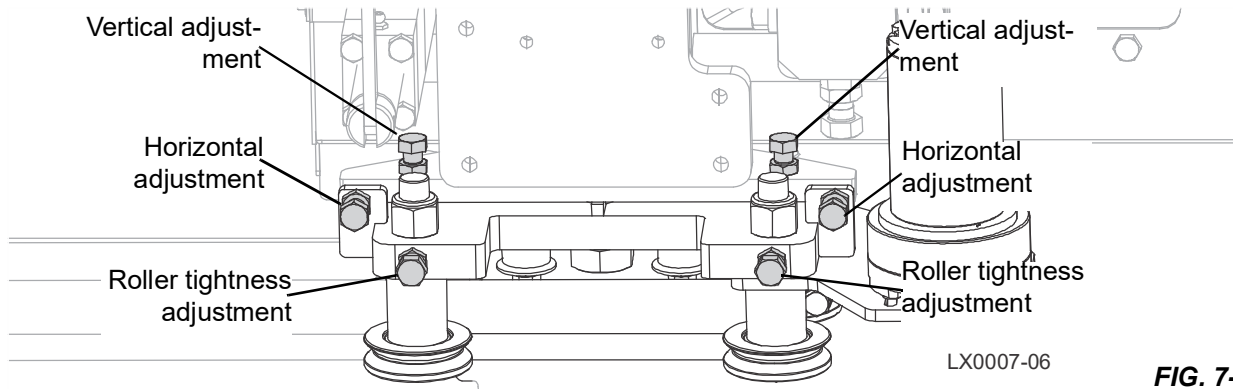

FIG. 7-3
3. If loose, tighten the adjustment bolts on the front of the blade guide mount by loosening the jam nut, tightening the adjustment nut, and retighten the jam nut. (See FIG. 7-3.)
- Loosen the horizontal adjustment bolt jam nuts. (*See FIG. 7-3.*)
13. Loosen the vertical adjustment bolt jam nuts. (See FIG. 7-3.)